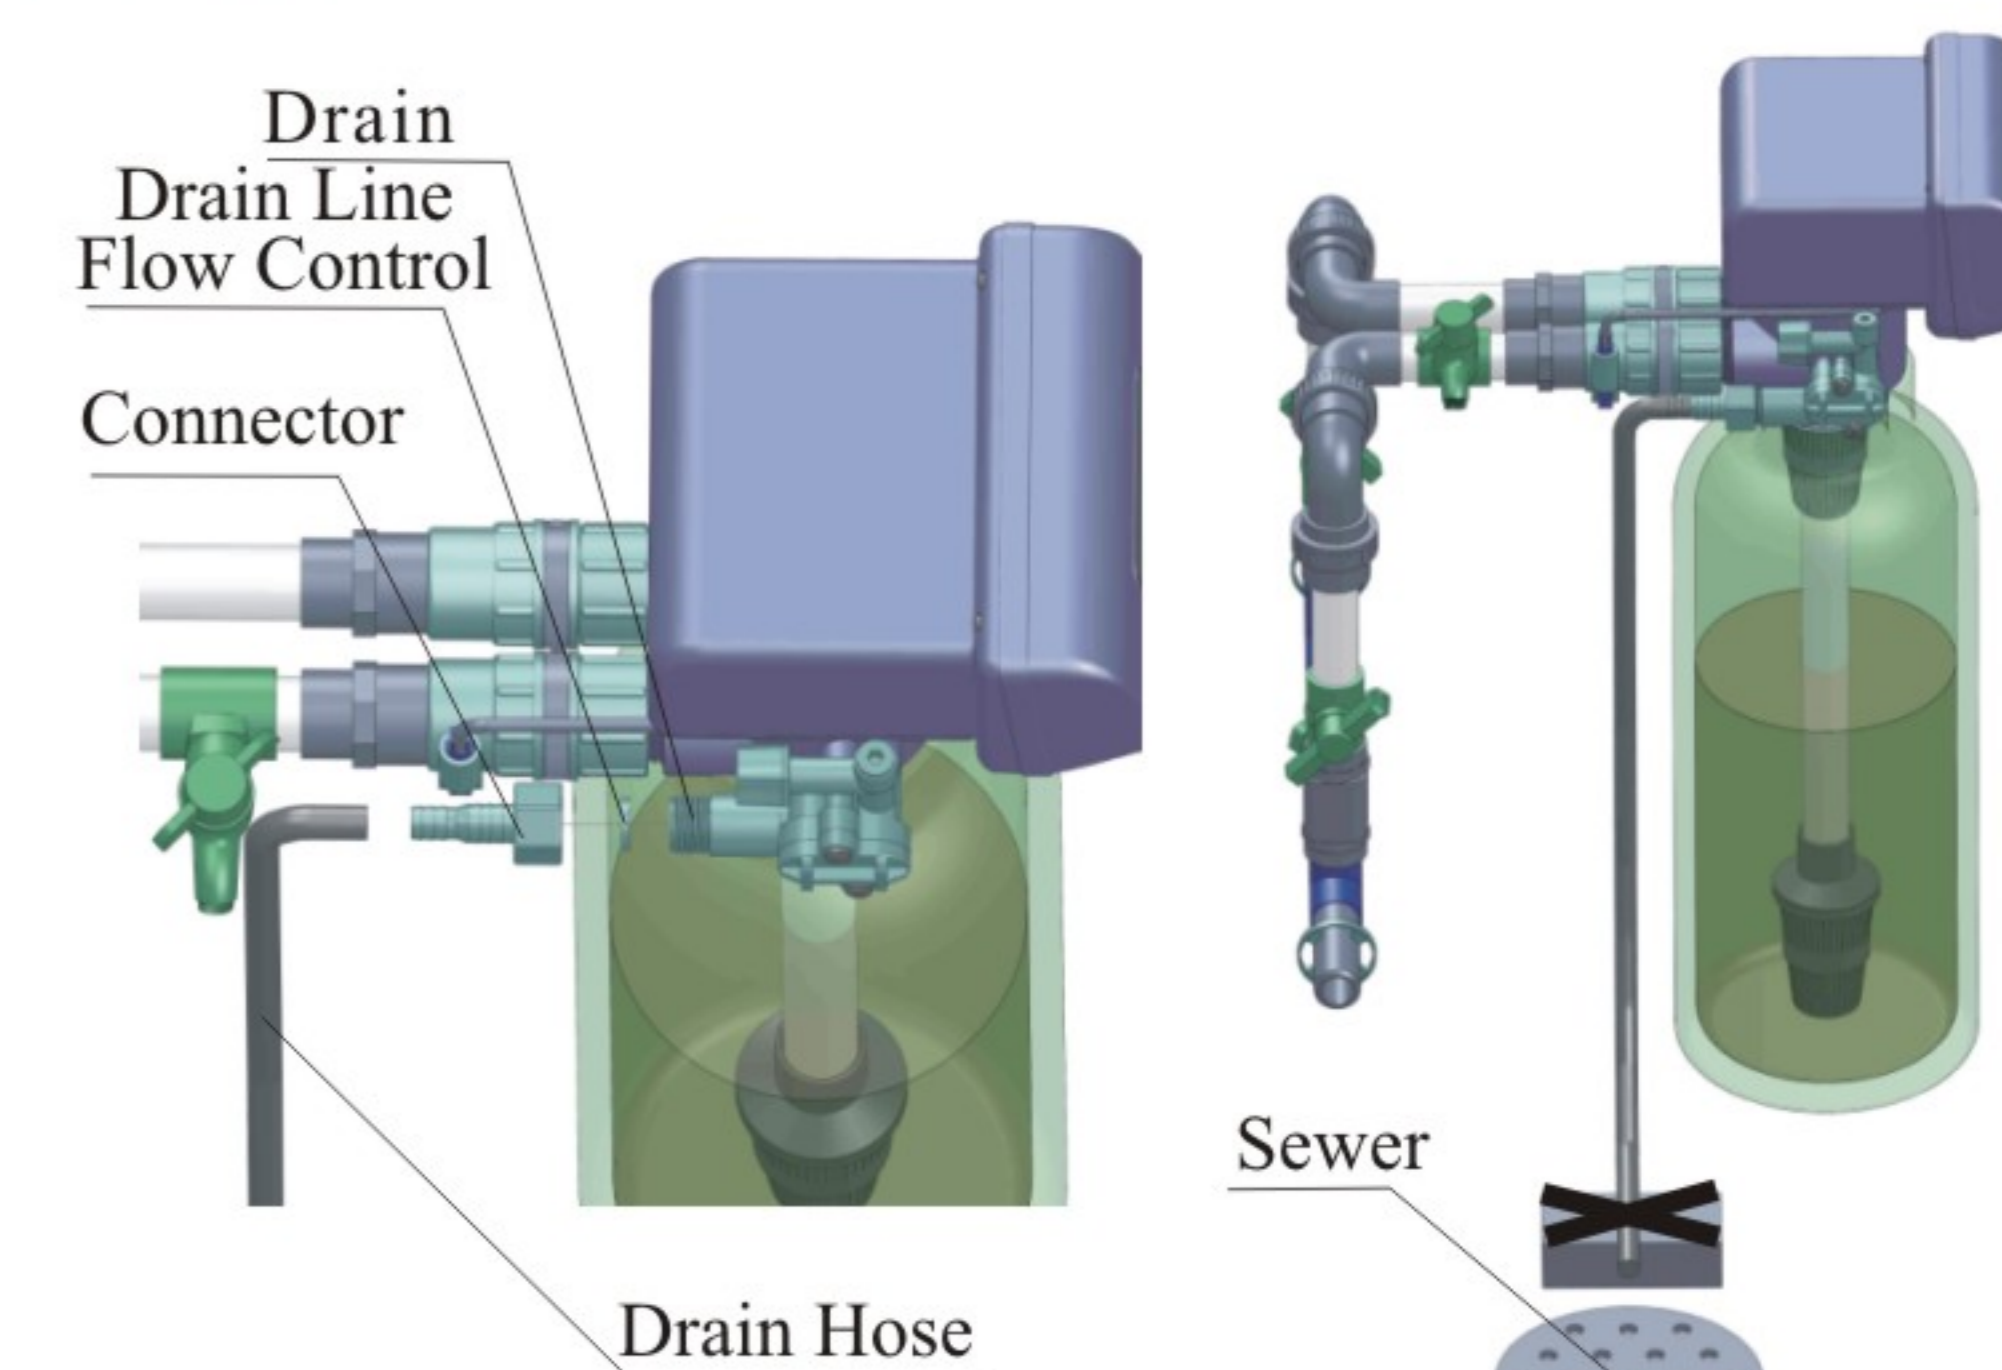

Figure 1-4
⑤ Install drain pipeline
- a. As the Figure 1-4 shows, slide the drain hose connector into drain outlet.
- d. Locate the drain hose well as the Figure1-4 shows.
- Be sure not connect drain with sewer directly, and leave a certain space between them, avoid wastewater being absorbing to the water treatment equipment, such as showed in the Figure1-4.
⑥ Connect brine tube